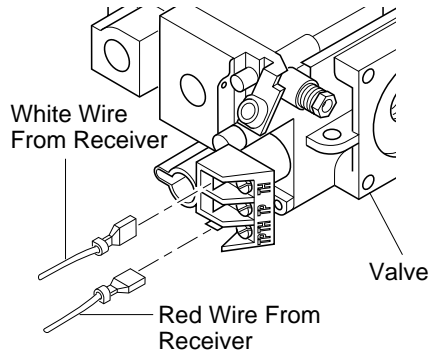

Figure 34 - Connecting Wires
6. Connect wires as shown in Figure 34.